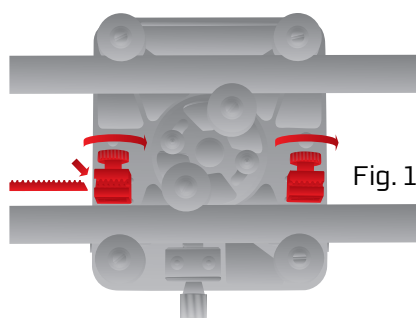

Fig. 1
2. On the underside of the slider, loosen the belt clamps, unthread the belt, and remove it. (Fig. 1)